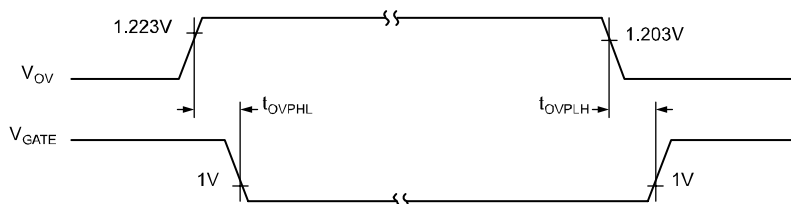

Figure 3. MIC2589/MIC2595 Overvoltage Response
| t OVPHL   | OV High to GATE Low (8)(MIC2589 and MIC2589R)Figure 3   | OV = 1.5V                                                          |     | 1   |     | μs    |
| t OVPLH   | OV Low to GATE High (8) ,(MIC2589 and MIC2589R)Figure 3 | OV = 1.0V                                                          |     | 1   |     | μs    |